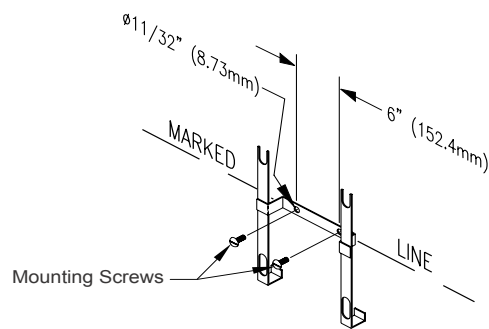
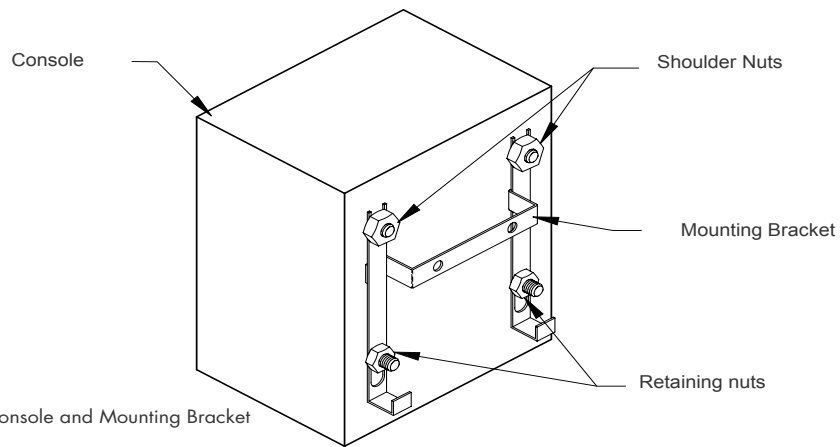

Figure 4 - Mounting Bracket
Figure 5 - Console and Mounting Bracket
3. Remove the mounting bracket from the rear of the AutoSwitch Console by removing the retaining nuts at the bottom of the mounting bracket (Figure 5). Place the upper edge of the bracket cross-member on the horizontal line so that it is centered with the vertical line. Holding the bracket with the slotted extensions away from the wall, mark the location of the two mounting bolts (Figure 4).
4. Using appropriate hardware based on wall construction, anchor the mounting bracket to the wall (Figure 4).